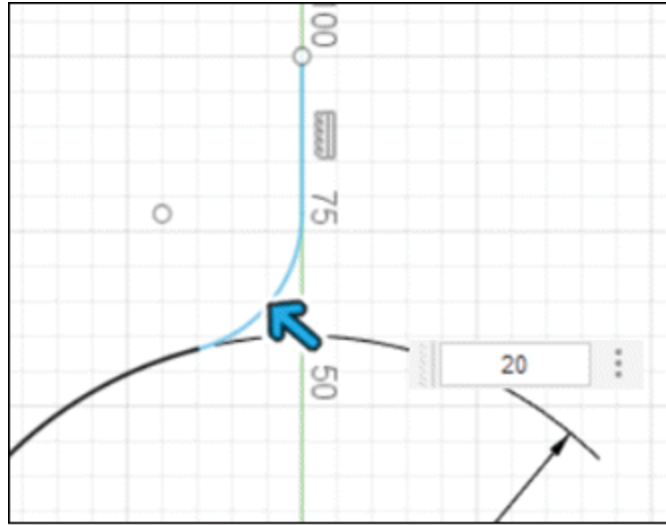

Figure-94. Applying fillet
- Click on the **Fillet** tool from **MODIFY** panel in **Ribbon** and apply a fillet of **20** radius at the intersection of line and circle; refer to Figure-94.